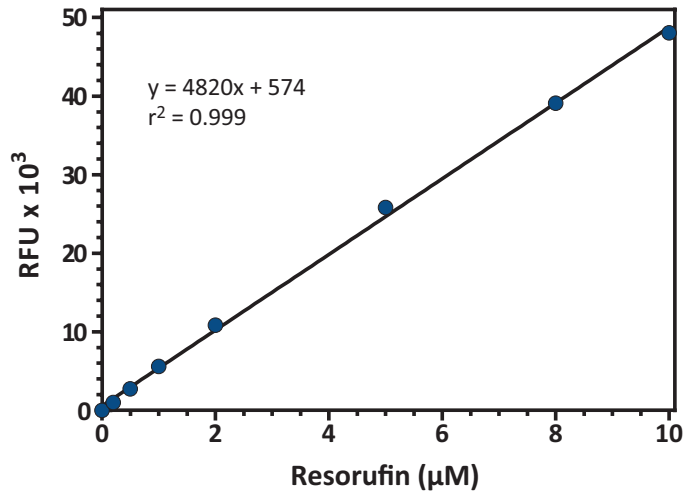

Figure 3. Resorufin Standard Curve
2. Plot the corrected fluorescence values (from step 1 above) of each standard as a function of the final concentration of resorufin from Table 1. See Figure 3, on page 16, for a typical standard curve.